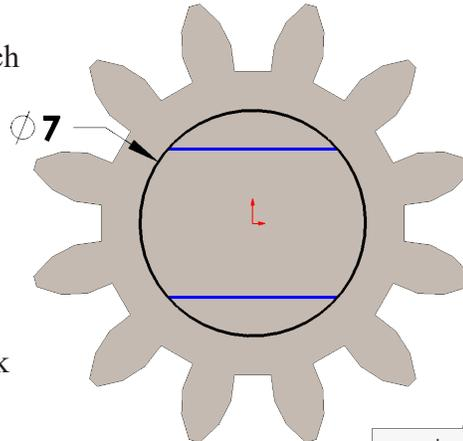

Fig. 7
Step 5. Sketch **two horizontal lines across circle**, **Fig. 7.** Double click to terminate chain.